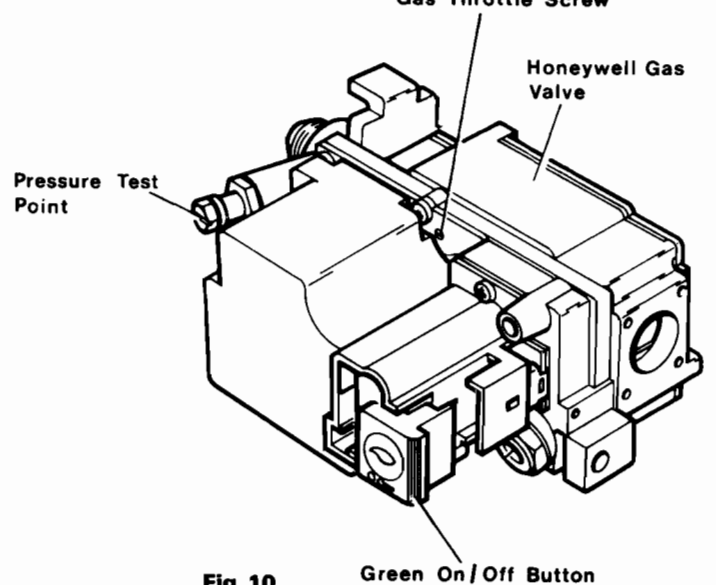

Fig. 10.
13. Adjust the appliance gas throttle – to give the correct pressure corresponding to the required input. Turn the gas throttle screw clockwise to decrease the burner pressure. See data badge or table below for hot setting pressure. Check this pressure after 10 minutes and adjust if necessary (Fig. 10).